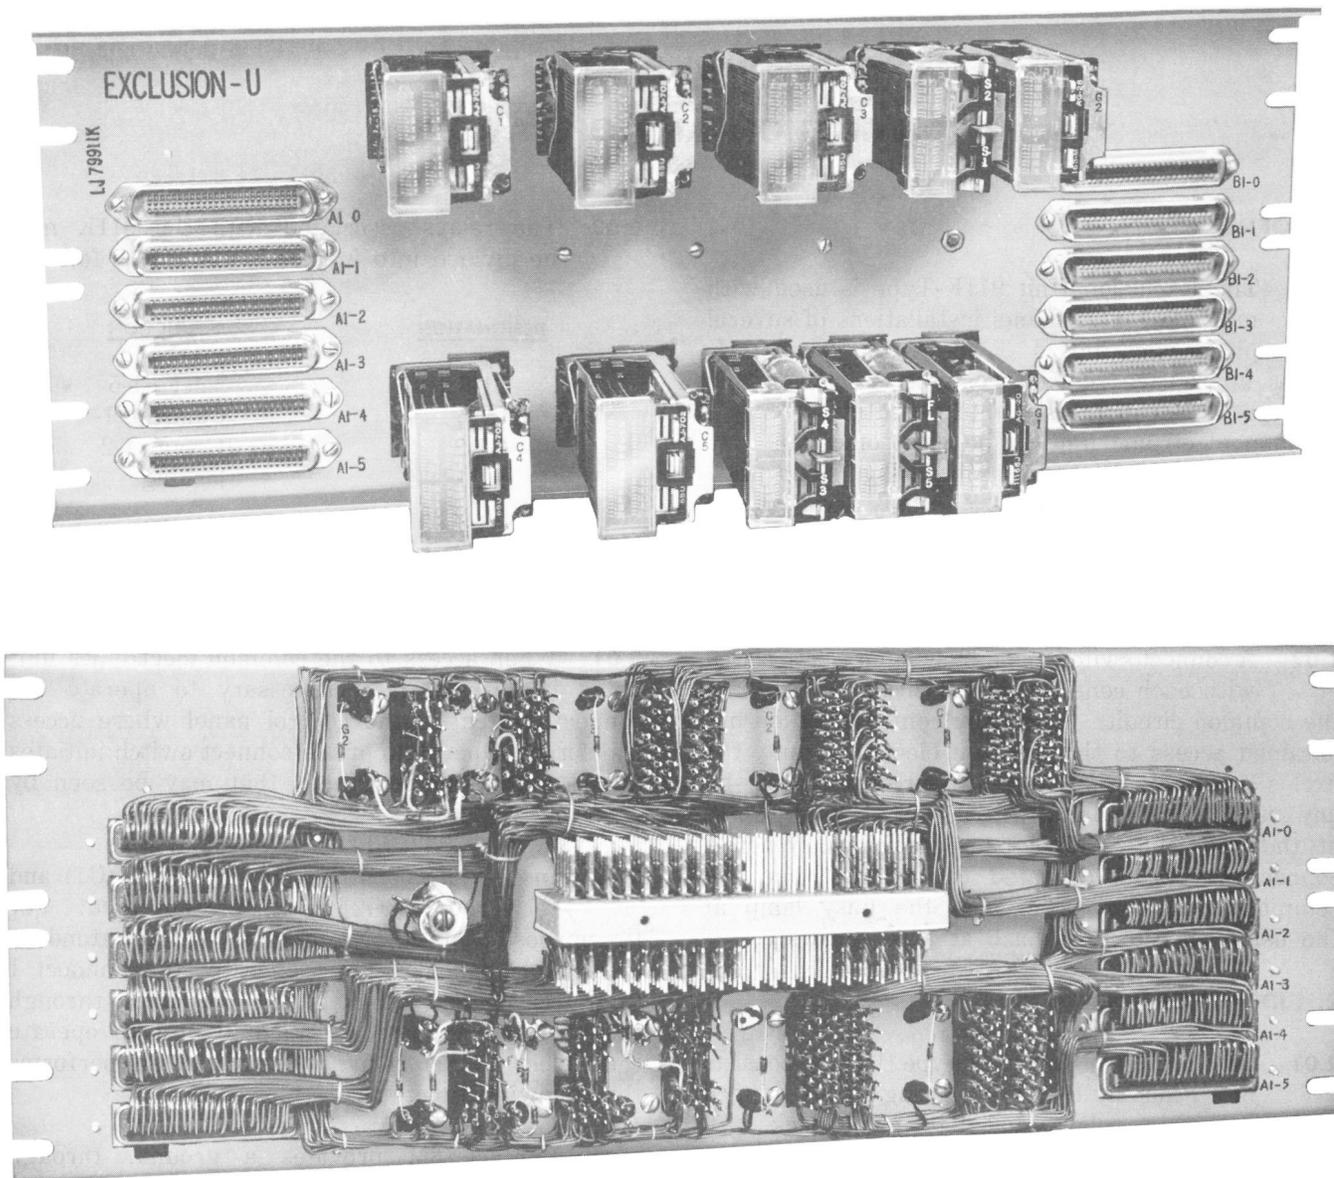

Fig. 1—Exclusion Unit Type 911K—Front and Rear View
**2.01** The Exclusion Unit 911K-type (Fig. 1), consists of a 7-inch by 19-inch mounting plate equipped with connectors, relays, and a terminal block. All input and output connections are made by connectors.